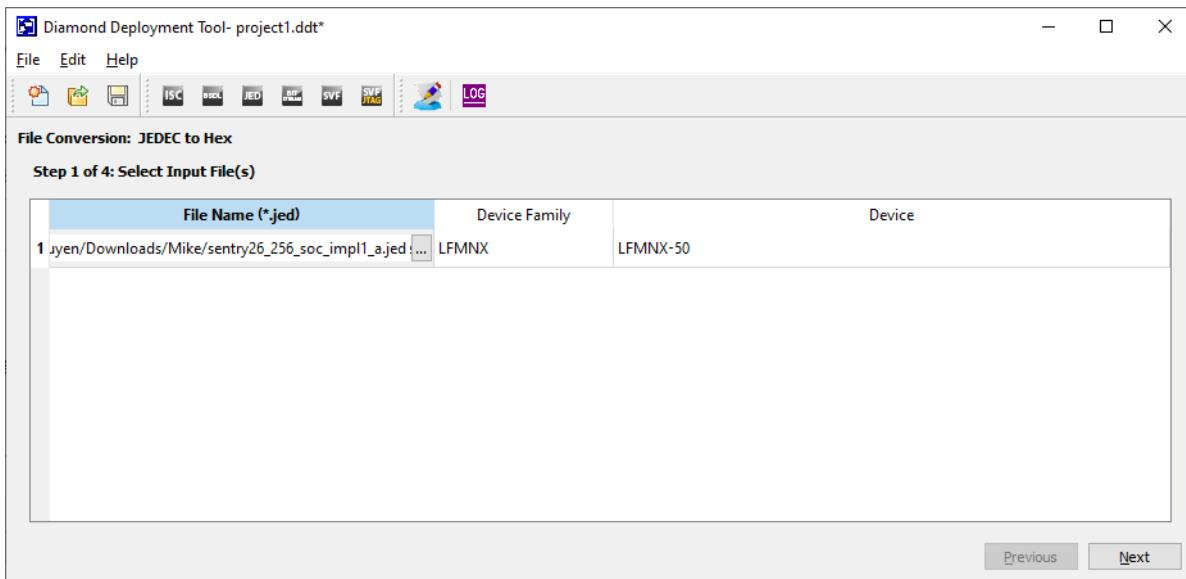

Figure 5.3. Select Input File(s)
5. Select the input JEDEC file and click **Next** as shown in Figure 5.3.